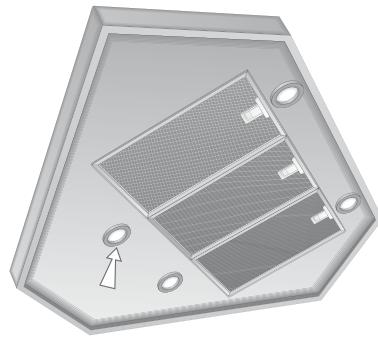

Fig. 4
- Mount the reduction connector 120/150 where the discharge air pipe is a diameter of Ø125. (**Fig. 4**)